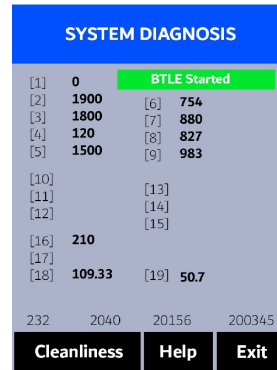

Figure 50.
Press **Diagnosis** (<) to launch the **SYSTEM DIAGNOSIS** screen where raw measurement data are displayed (Figure 50). The information has no use for normal operation, but instead is used for device troubleshooting. Provide an image of both the **DEVICE INFORMATION** screen and the **SYSTEM DIAGNOSIS** screen when you contact Pyxis (service@pyxis-lab.com) for troubleshooting your device or call +1 (866) 203-8397.
4. Allow 5–10 seconds for the message in the top-right corner of the display change from **Starting BTLE...** to **BTLE Started** (Figure 50).